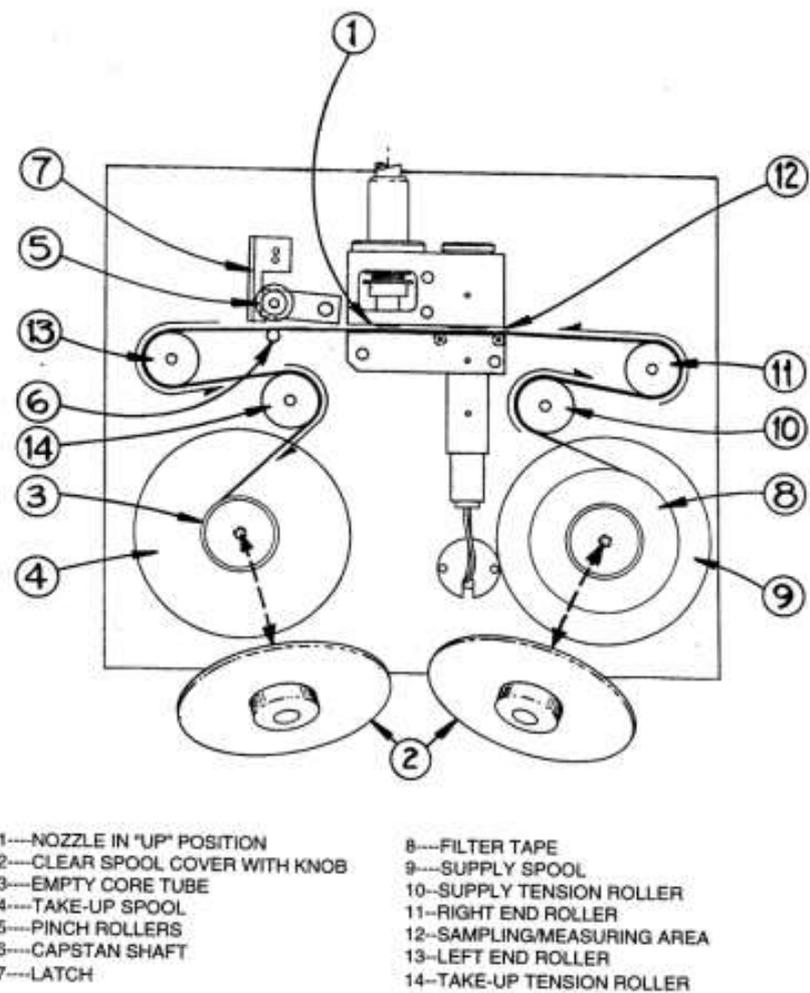

Figure 21-6 Filter tape changing procedures
Loading a roll of filter tape is achieved by using the following steps and referring to Figure 21-6. Gloves must be worn whilst installing new tape.
2. Lift the rubber pinch roller assembly and latch it in the UP position (see Numbers 5 and 7 in Figure 21-6). Unscrew and remove the two clear plastic spool covers.
4. Load the new roll of filter tape onto the right (supply) reel, and route the tape through the transport assembly as shown in Figure 21-6 below. Attach the loose end of the filter tape to the empty core tube with cellophane tape or equivalent.